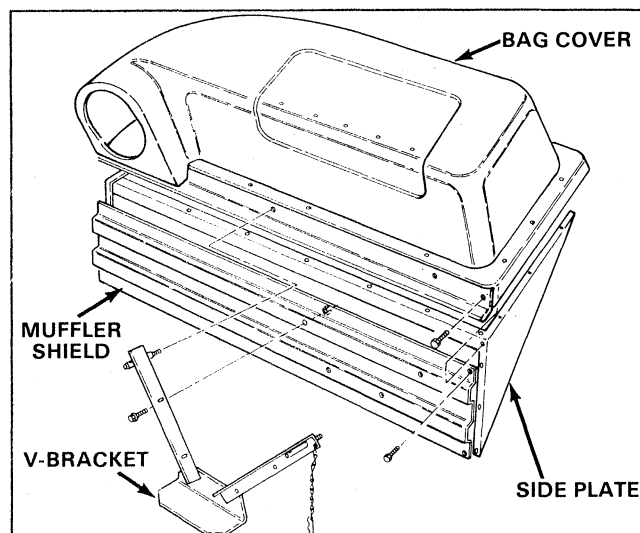

Figure 1
1. Secure sideplates and muffler shield to bag cover with (12) 1/4-20 x 5/8" lg. capscrews and locknuts as shown in fig.1. Capscrew heads to be positioned to the outside. When securing sideplates to bag cover, position a flatwasher (5 total) between plastic bag cover and capscrew head.
2. Mount V-bracket to outside of muffler shield with (2) flatwashers and (3/8-16) locknuts for mounting studs and (4) 5/16-18 x 5/8" lg. capscrews and locknuts as shown in fig.1.